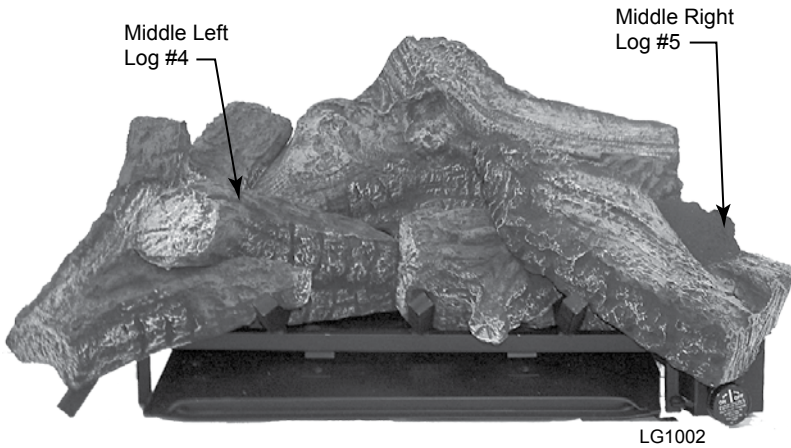

**Figure 39**
1. Place back log (#1) on back of base aligning two (2) pins on base with holes in bottom of log. *Figures 39 and 40*